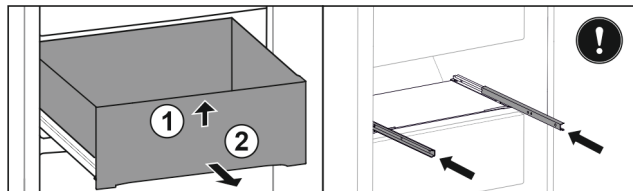

Fig. 111
- Lift up drawer at the front. Fig. 111 (1)
- Remove drawer to the front. Fig. 111 (2)